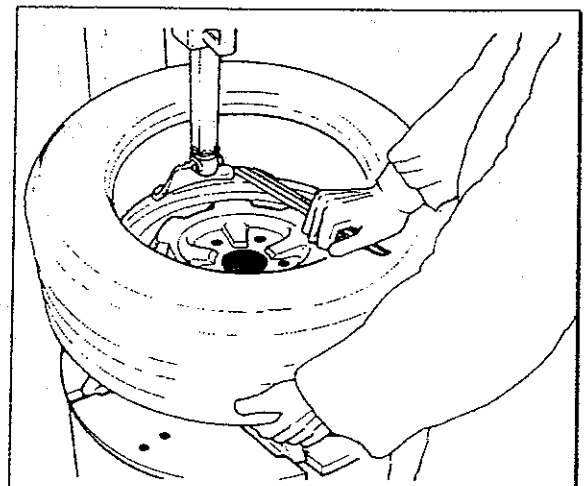

Fig.20
H. Repeat the process for removing the lower bead. This time, lift the bead opposite to the mount/demount head to keep it in the drop center (Fig.20). Move the swing arm aside and remove the tire.